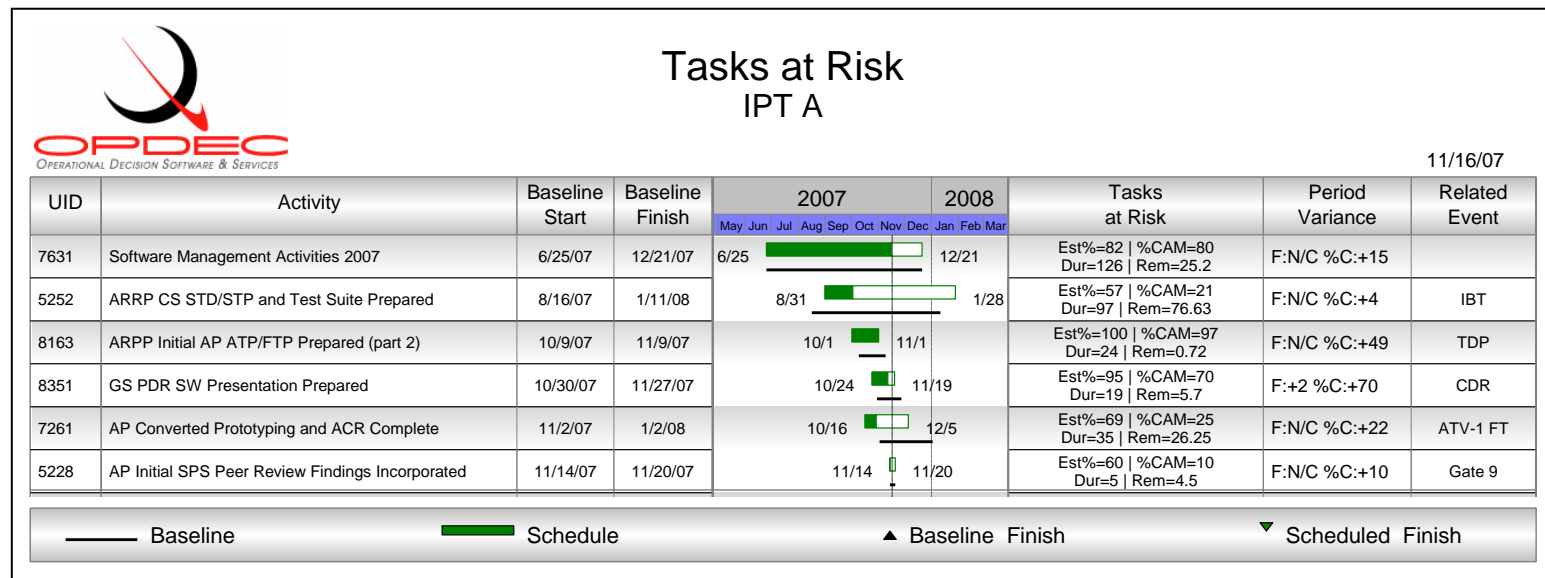

Figure 15
- **Tasks at Risk:** This column indicates if the activity is considered at risk. In the example above (Figure 15) UDI 7631 is at risk because its estimated % complete is 82 while the specified CAM % complete is only 80. Now this may not seem like a large enough variance to warrant the task at risk, but for this report our variance threshold was set to zero (see **Tasks at Risk Threshold** from the settings section). If we were to allow a variance threshold of +-5, then this activity would not have shown at risk. The Task at Risk column also shows what the duration of the task is compared to the duration remaining.
The Tasks at Risk report is designed to show activities whose % Complete variance exceeds the threshold given. This variance is computed by subtracting the Activities' % Complete from the CAM % Complete. Using the default Milestone Professional template 'Task at Risk.mtp', the following report example was created (Figure 15).
- **Tasks at Risk:** This column depicts the reason why the task is at risk. In the example above (Figure 15) UDI 7631 is at risk because it's estimated % complete is 82 while the specified CAM % complete is only 80. Now this may not seem like a large enough variance to warrant the task at risk, but for this report our variance threshold was set to zero (see **Tasks at Risk Threshold** from the settings section). If we were to allow a variance threshold of +-5, then this activity would not have shown at risk. The Task at Risk column also shows what the duration of the task is compared to the duration remaining.